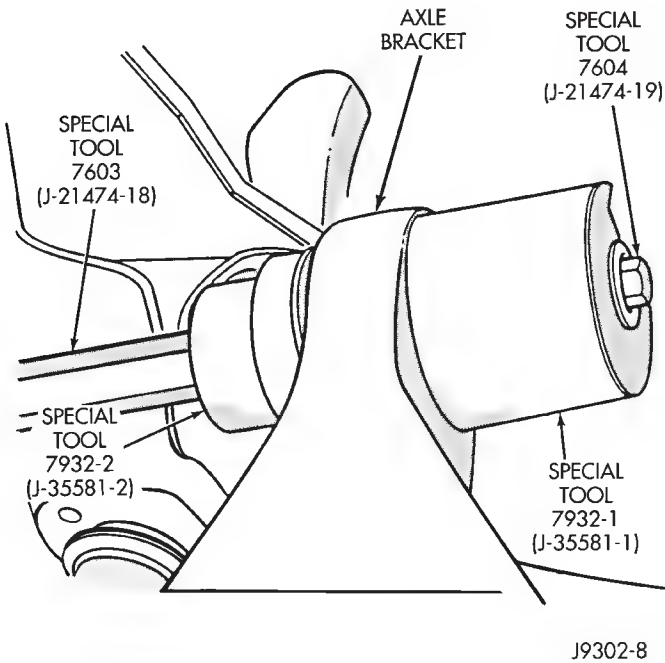

Fig. 5 Axle Bracket Bushing Installation
- (5) Position the new bushing on Installer.
- (6) Install the bushing by tightening the hex-head on Long Nut (Fig. 5). Remove Spacer 7932-3 (J-35581-3).
- (7) Install the upper suspension arm to axle. Refer to Upper Suspension Arm Installation in this Group.